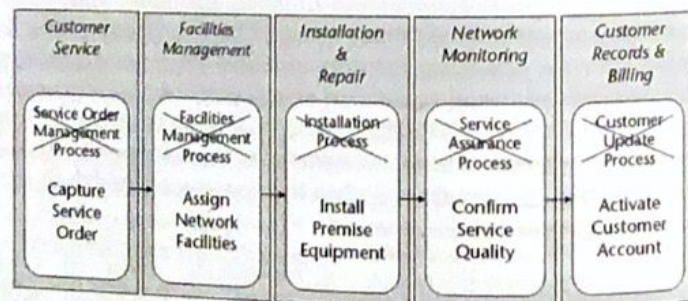

Figure 3.6 Problems—improper naming, confusing function and process.
2. They confused process with functional organizations. When we came in later to help the telco determine what had gone wrong, it was easy to see why they had identified the processes they did. Each one was, in fact, the work provided by a single functional area. This further emphasized the focus on the functions rather than the needs of the customer. These first two points are illustrated in Figure 3.6.